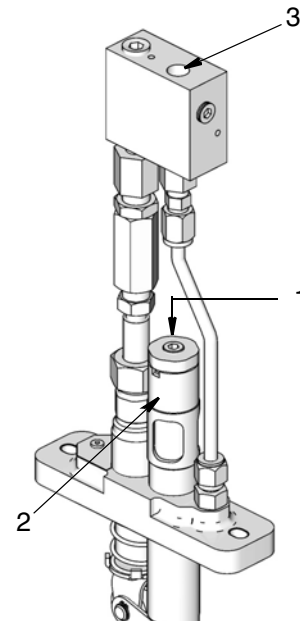

FIG. 7
Alarm Pump Models (FIG. 7)
2. Install pressure switch into sensor output (3) (FIG. 7).